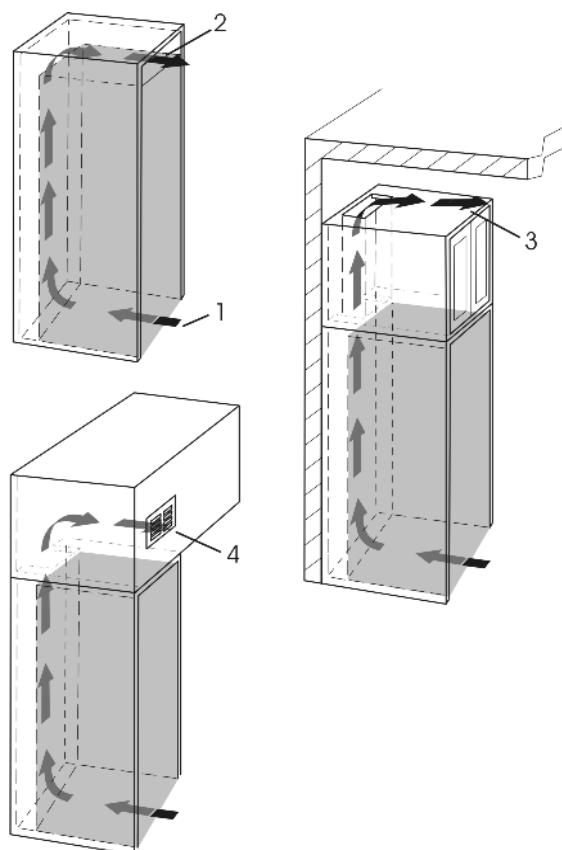

Fig. 7
- An effective ventilation cross-section of at least 31 in2 (200 cm2) per unit must be present at the air intake Fig. 7 (1) and air outlet Fig. 7 (2).
- The upper ventilation cross-section can be set up directly above the appliance with an optional ventilation grille Fig. 7 (2), near the ceiling above a cabinet Fig. 7 (3) or as an air vent in an intermediate ceiling Fig. 7 (4).